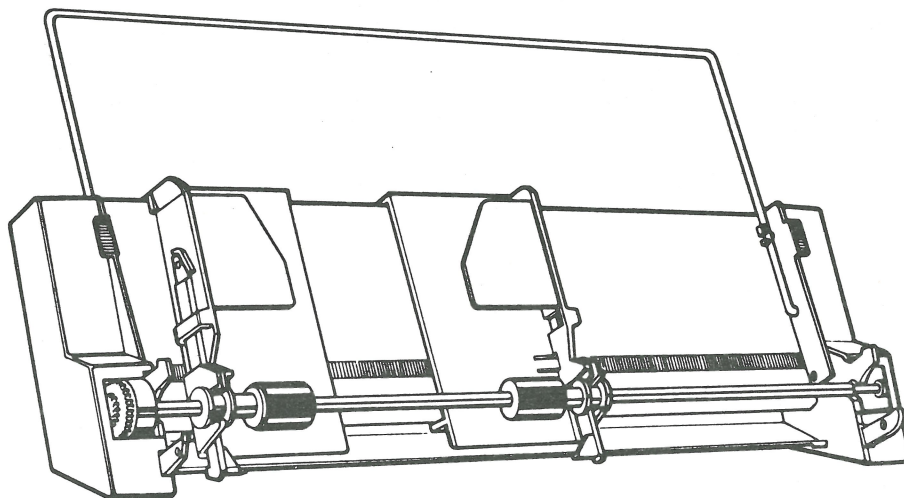

FIGURE 4
- SF-IPL.5 Extension (Figure 4)
☐ **EXTENSION (Figure 4)**